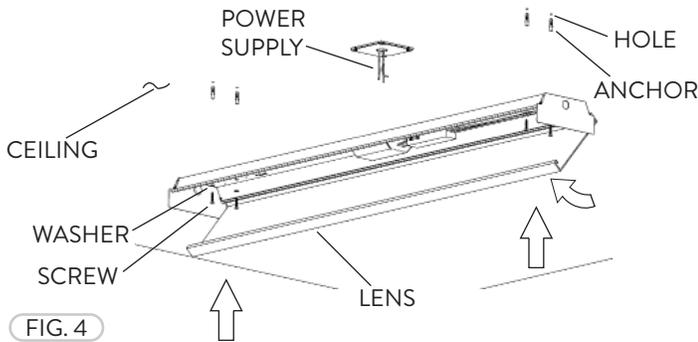

FIG. 4
- 2 Attach the Power Supply Wires. Refer to the wiring diagram. Install the FSWA fixture flush to the Ceiling by securing with plastic twist resistant Anchors, Washers, and Screws. Reinstall the Lens onto the FSWA Housing (Fig. 4).